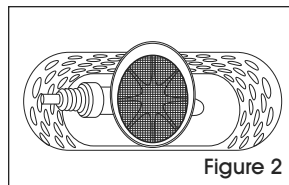

Figure 2
2. Insert the supplied screen as shown. (See Figure 2)
2. Insérez le pare-feu fourni, comme illustré. (Voir Figure 2)